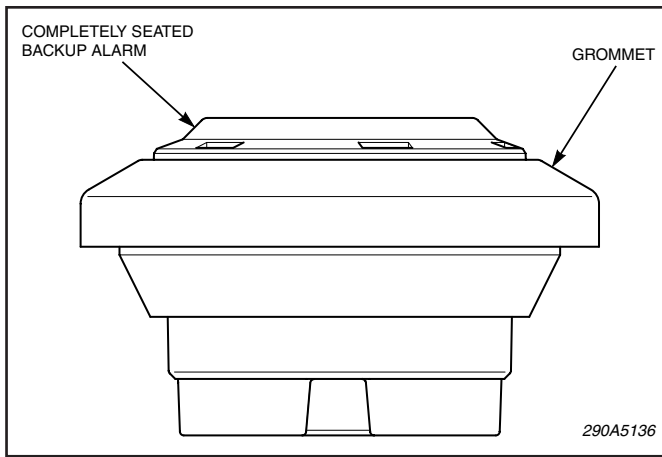

Figure 3.
3. See figure 3. Orient the backup alarm with the lettering upright and push it into the grommet until completely seated. Use liquid soap as a lubricant if needed.